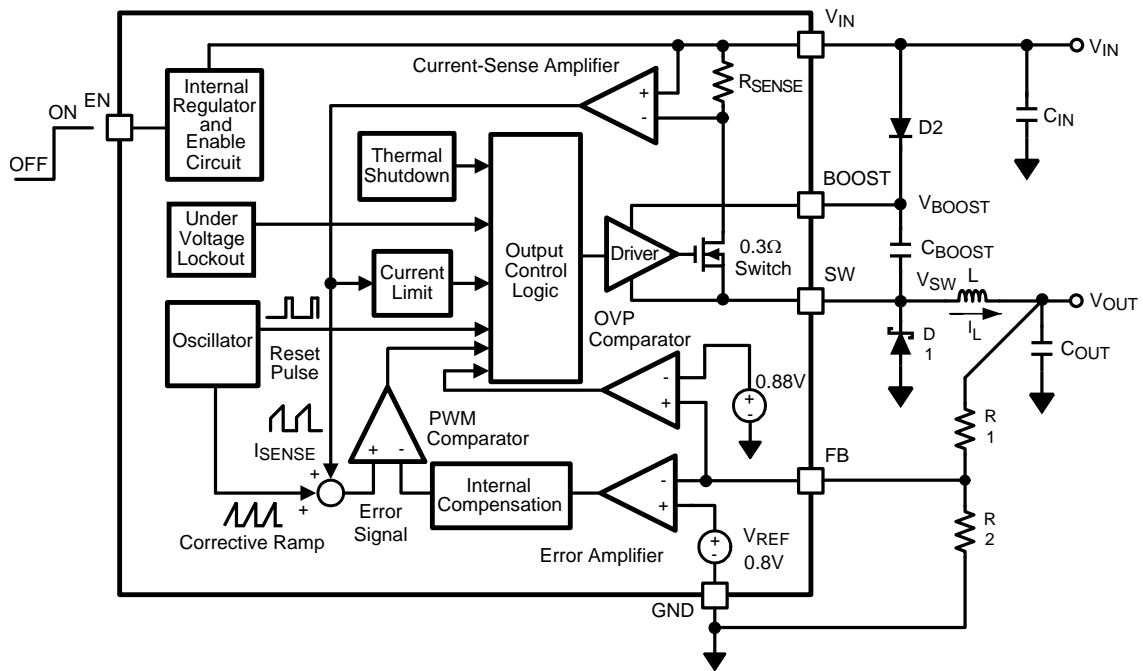
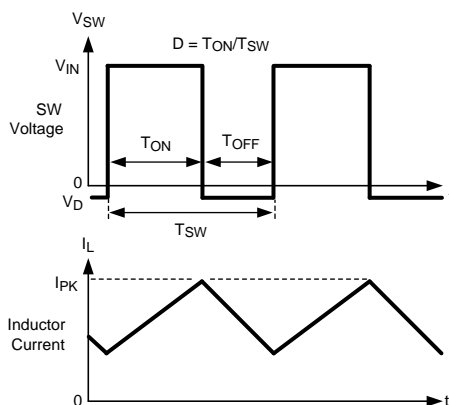

Figure 20.
Figure 21. LMR12010 Waveforms of SW Pin Voltage and Inductor Current
The following operating description of the LMR12010 will refer to the Simplified Block Diagram (Figure 20) and to the waveforms in Figure 21. The LMR12010 supplies a regulated output voltage by switching the internal NMOS control switch at constant frequency and variable duty cycle. A switching cycle begins at the falling edge of the reset pulse generated by the internal oscillator. When this pulse goes low, the output control logic turns on the internal NMOS control switch. During this on-time, the SW pin voltage (V_{SW}) swings up to approximately V_{IN} , and the inductor current (I_L) increases with a linear slope. I_L is measured by the current-sense amplifier, which generates an output proportional to the switch current. The sense signal is summed with the regulator's corrective ramp and compared to the error amplifier's output, which is proportional to the difference between the feedback voltage and V_{REF} . When the PWM comparator output goes high, the output switch turns off until the next switching cycle begins. During the switch off-time, inductor current discharges through Schottky diode D1, which forces the SW pin to swing below ground by the forward voltage (V_D) of the catch diode. The regulator loop adjusts the duty cycle (D) to maintain a constant output voltage.
In the Simplified Block Diagram of Figure 20, capacitor C_{BOOST} and diode D2 supply the gate-drive current for the NMOS switch. Capacitor C_{BOOST} is charged via diode D2 by V_{IN} . During a normal switching cycle, when the internal NMOS control switch is off (T_{OFF}) (refer to Figure 21), V_{BOOST} equals V_{IN} minus the forward voltage of D2 (V_{FD2}), during which the current in the inductor (L) forward biases the Schottky diode D1 (V_{FD1}). Therefore the voltage stored across C_{BOOST} is